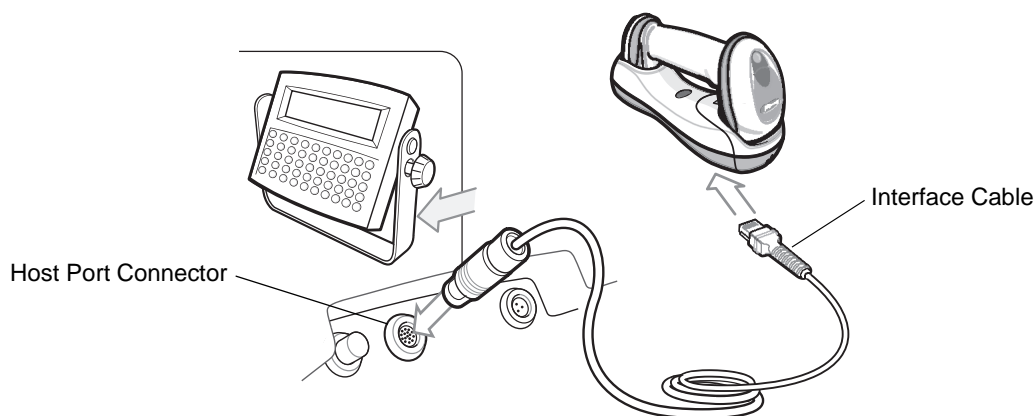

Figure 11-1 Scanner Emulation Connection
- ✓ **NOTE** Interface cables vary depending on configuration. The connectors illustrated in Figure 11-1 are examples only. The connectors may be different than those illustrated, but the steps to connect the cradle remain the same.